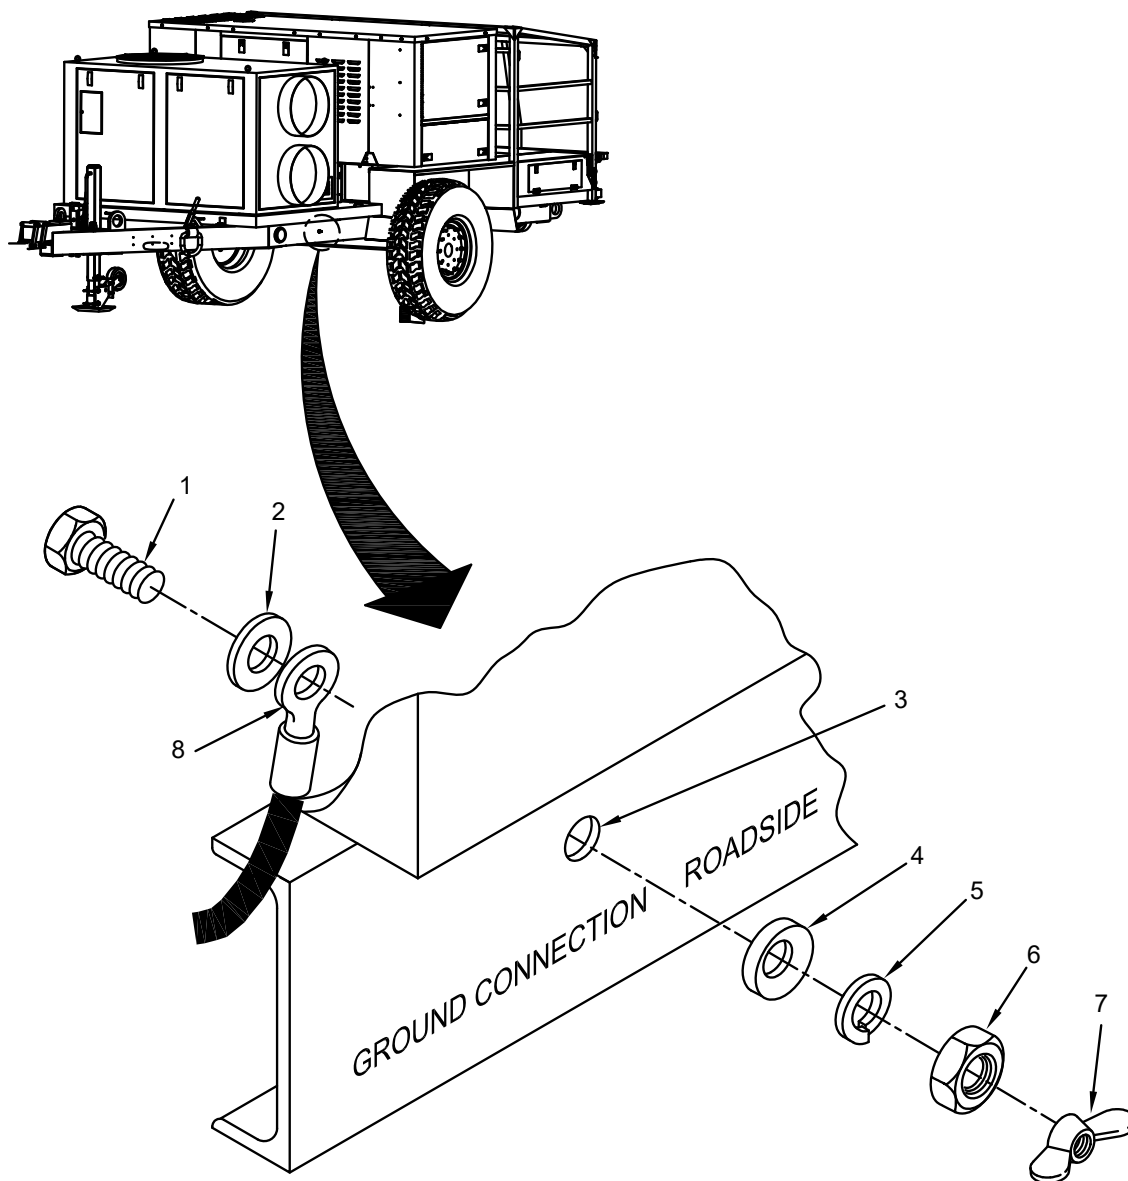

Figure 2. Ground Stud Removal/Replacement.
1. Remove wing nut (Figure 2, Item 7), nut (Figure 2, Item 6), lock washer (Figure 2, Item 5), and finishing washer (Figure 2, Item 4) from ground bolt (Figure 2, Item 1).
2. Remove ground bolt (Figure 2, Item 1), washer (Figure 2, Item 2), and ground wire(s) (Figure 2, Item 8) from trailer superstructure (Figure 2, Item 3).
1. Insert ground bolt (Figure 2, Item 1), washer (Figure 2, Item 2), and ground wire(s) (Figure 2, Item 8) to trailer superstructure (Figure 2, Item 3).
2. Install wing nut (Figure 2, Item 7), nut (Figure 2, Item 6), lock washer (Figure 2, Item 5), and finishing washer (Figure 2, Item 4) to ground bolt (Figure 2, Item 1).